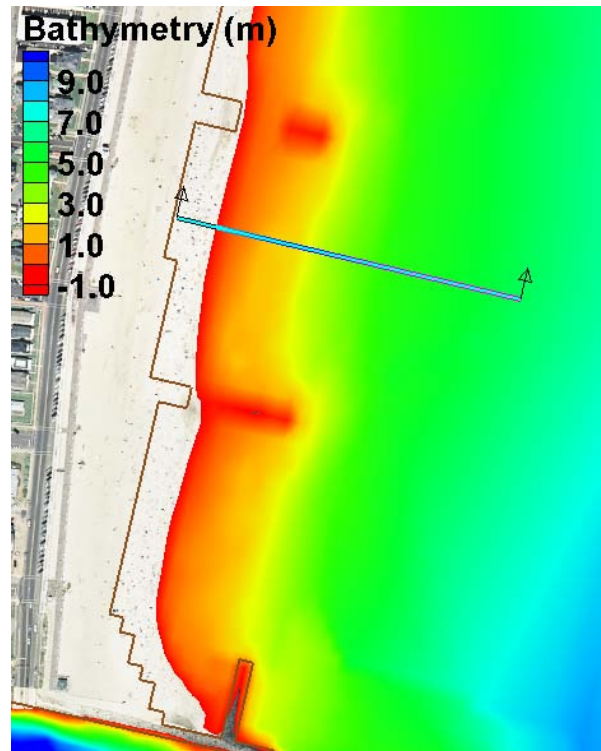

Figure 8.3.3. Highlighted Feature Arc with the positive direction shown by the arrows.
Click on the starting and ending points on the grid that define the transect for calculating sediment transport. An example of a *Feature Arc* for calculating longshore sediment transport at Shark River Inlet is shown in Figure 8.3.3. In the case of longshore transport, the offshore end should extend beyond the breaker zone and closure depth to capture all, mainly, wave-induced longshore sediment transport. Be sure that the observational arc end points do not touch inactive land cells as this may cause interpolation problems in SMS.
2. Create arcs using the *Create Feature Arc* tool , similarly to Figure 8.3.3, by making each quantifiable transect (arc) individually, and by starting the next arc on the end *Feature Point* of the last arc. This ensures that the arcs close the loop.